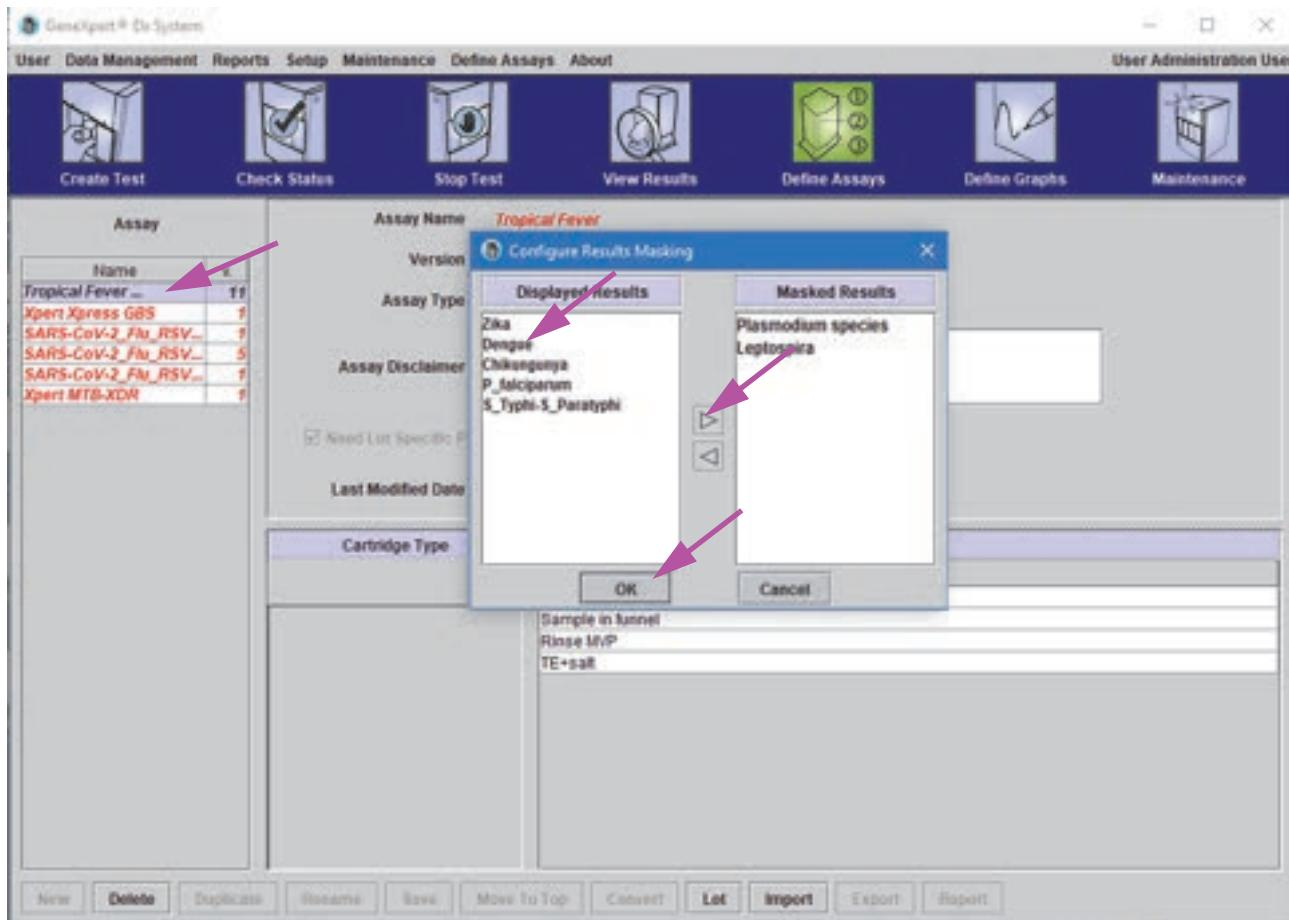

Figure 5-28. Define Assays Screen with Configure Results Masking Overlay
The Define Assays screen displays (see Figure 5-28).
3. Click **Configure Results Masking** (see Figure 5-28).
4. The Configure Results Masking overlay appears (see Figure 5-28). The Configure Result Masking overlay includes two columns, Displayed Results and Masked Results. Any results in the Displayed Results column will be displayed in final test results. Results in the Masked Column will not be displayed in the final test result.